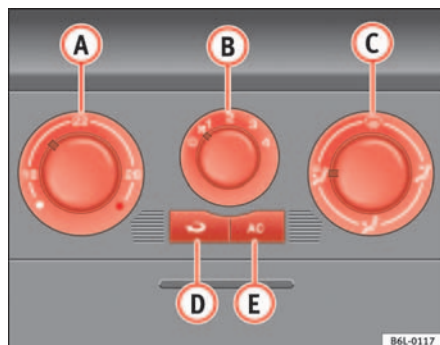

Fig. 89 On the instrument panel: air conditioner controls
- Disconnect the cooling system using button ⇒ fig. 89  (the button light goes off).